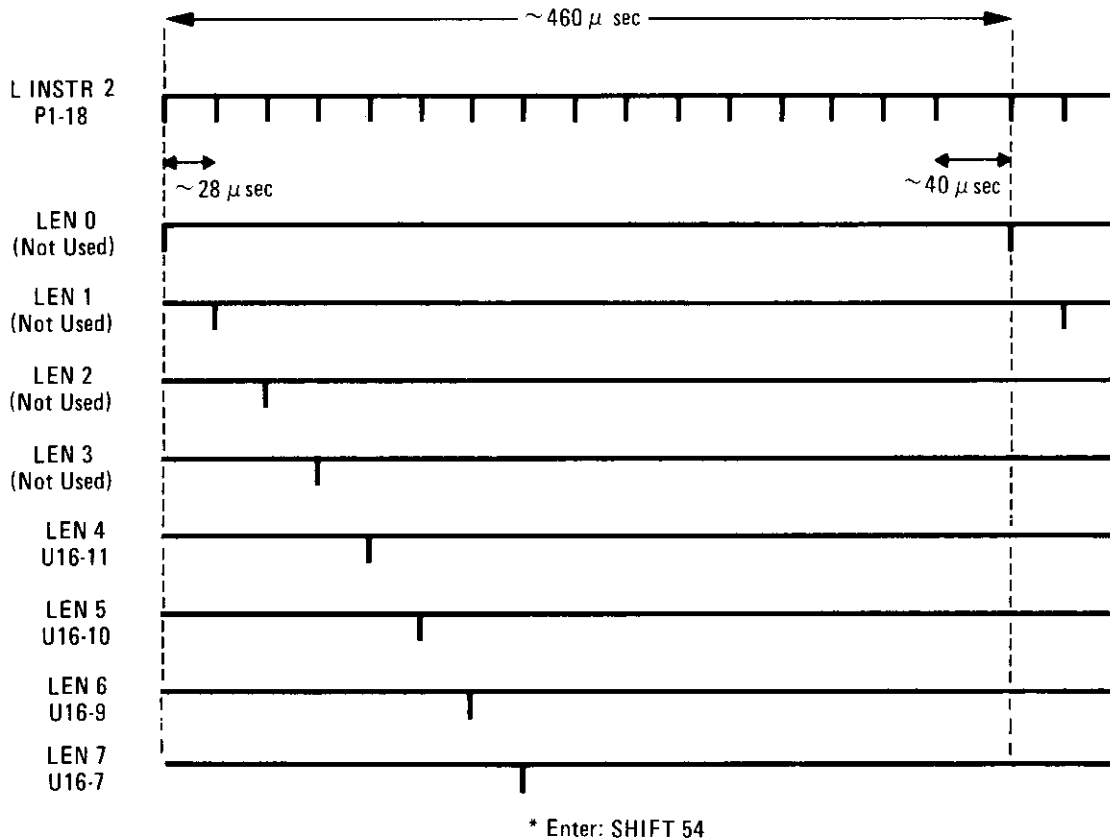

Figure 8-55. A7 Address Decoder Timing Diagram
2. If L INST2 is functional, check each of the LENn lines (U16) for the pulses shown in Figure 8-55. If these are incorrect, but the address lines show activity, replace U16. If the address lines seem locked high or low, troubleshoot the address buffer on the A3 assembly.